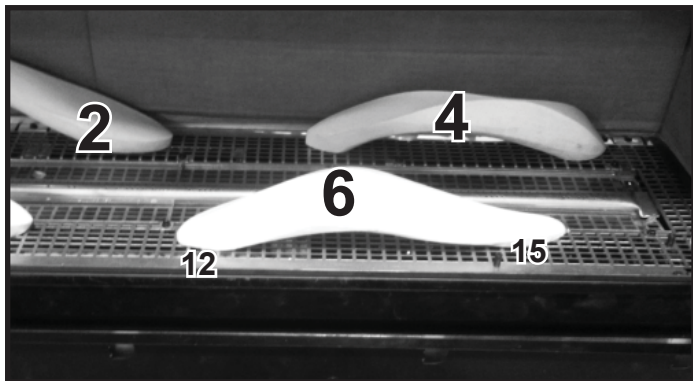

Figure 10. (SRV2310-756)
11. (SRV2310-756): Install Log #6 onto the shoulder screws by aligning the log placement holes with shoulder screws #12 and #15. See Figure 10.